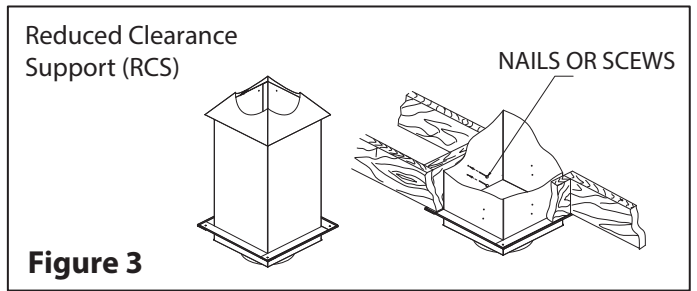

Figure 3
When using the Reduced Clearance Support (RCS) at the attic level, the use of the attic radiation shield is not required. The Reduced Clearance Support (RCS) acts as an attic radiation shield when installed with insulation and a collar (provided) (see **figure 3**).
Step 3: From below, push the Reduced Clearance Support into the framed opening in the ceiling. Ensuring the support is level, attach the support to the framed opening using (12) - 3" spiral nails or #8 x 1 1/2" wood screws (see **Figure 3**). At least 3 1/2" of the support must extend into the room. Screw the Finish Trim (included) to the ceiling.